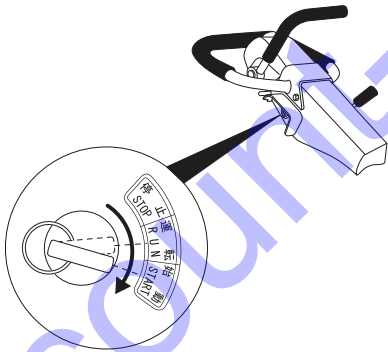

Figure 40. Ignition Switch (START)
- Turn the key further **clockwise** to the **START** position (Figure 40). Once the engine starts, release the key. As the engine speed increases, the buzzer will stop.